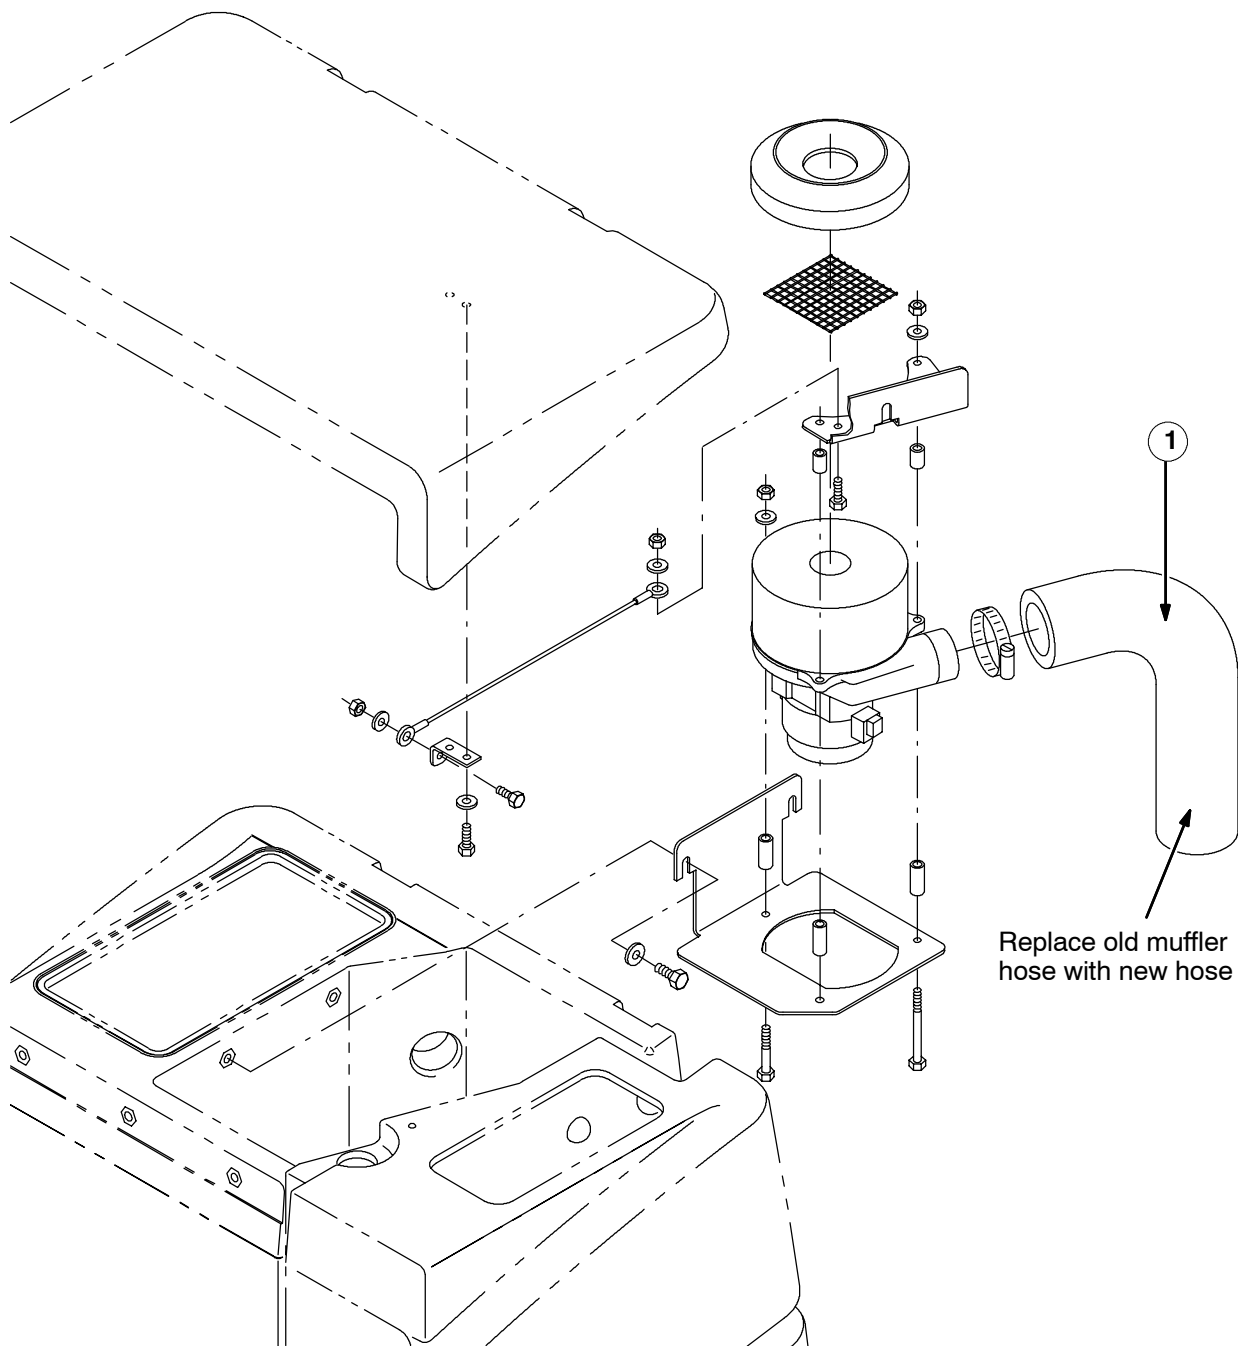

FIG. 3 - NEW VACUUM FAN EXHAUST HOSE INSTALLATION
6. Install the new exhaust hose muffler (1) on the vac fan. (Refer to FIG. 3)
7. Replace the vac fan with the set aside mounting hardware. Route the new exhaust hose muffler (1) the same as the old exhaust hose (over the squeegee hose and pointing down the tank opening). (Refer to FIG. 3)